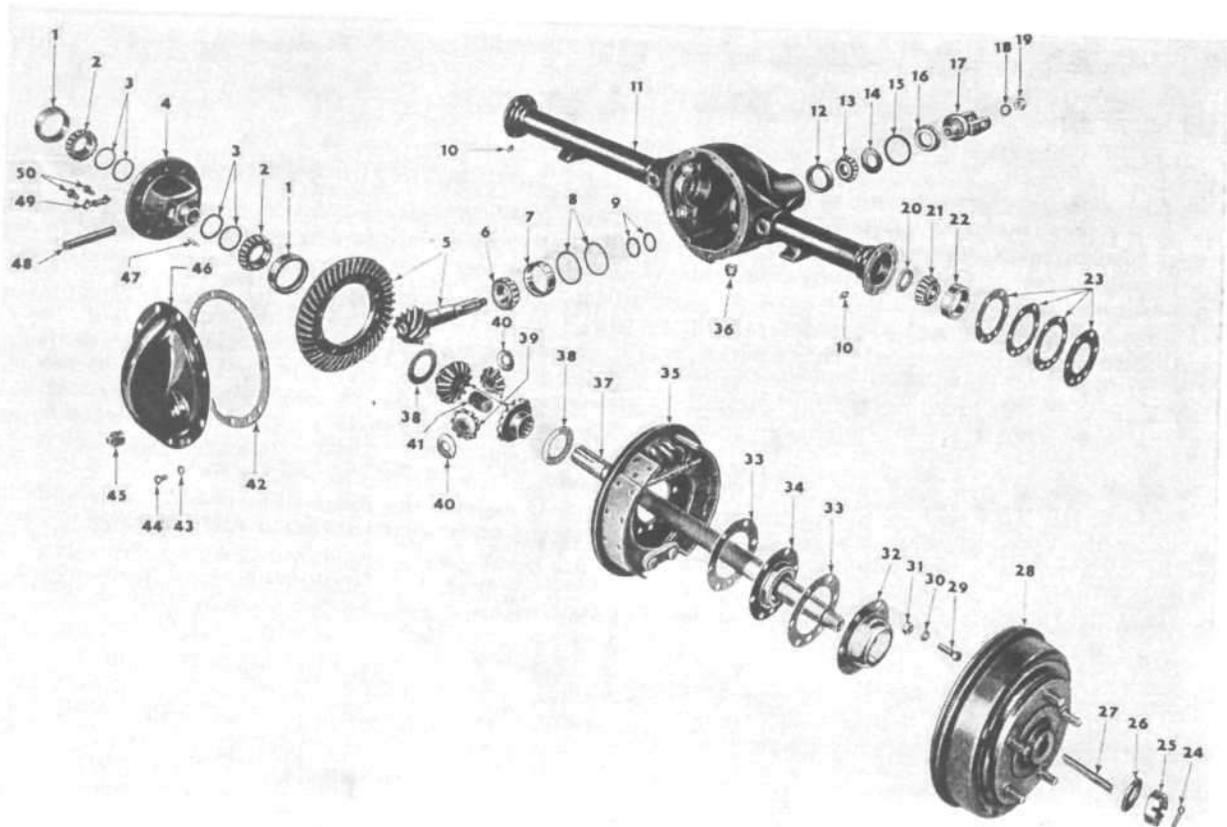

FIG. 260—SEMIFLOATING, HYPOID REAR AXLE
The relative assembled position of the internal parts of the differential are shown in Fig. 260. Re-assemble the differential pinions, side gears, thrust washers and shaft in place and do not overlook installing the differential shaft lock pin. In order to prevent the lock pin from working out, stake it in position with a punch.
Note: If ring gear bolt locking straps (Fig. 260, No. 49) are not present, install them using longer screws (50).